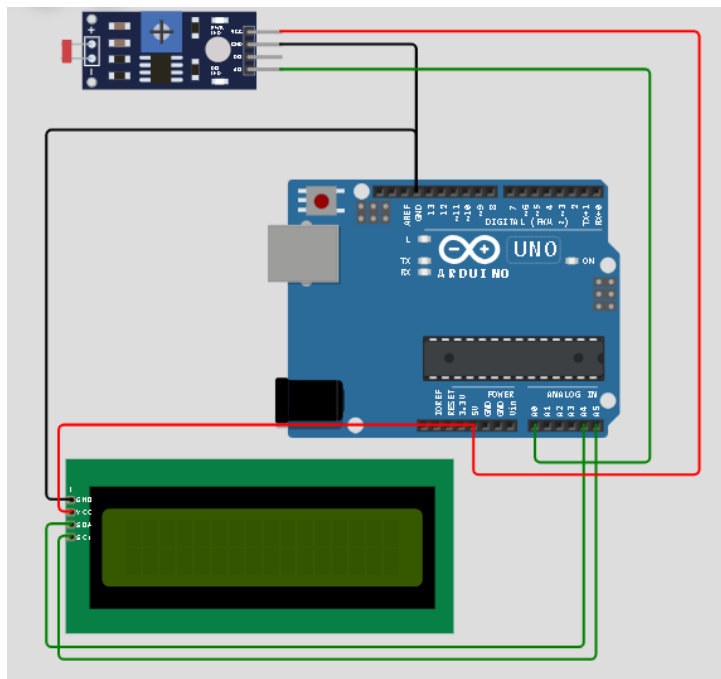

Figure 8.1
- Design the circuit diagram given in figure 8.1 in Wokwi. Use the below items to design your circuit diagram.
- a) Connect the components correctly and design the circuit as shown in figure 8.1.